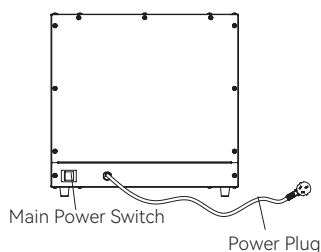

Figure 1
- ① Turn on the power switch (see Figure 1). A long beep will sound, and the LED display on the knob will show "OFF," indicating standby mode.